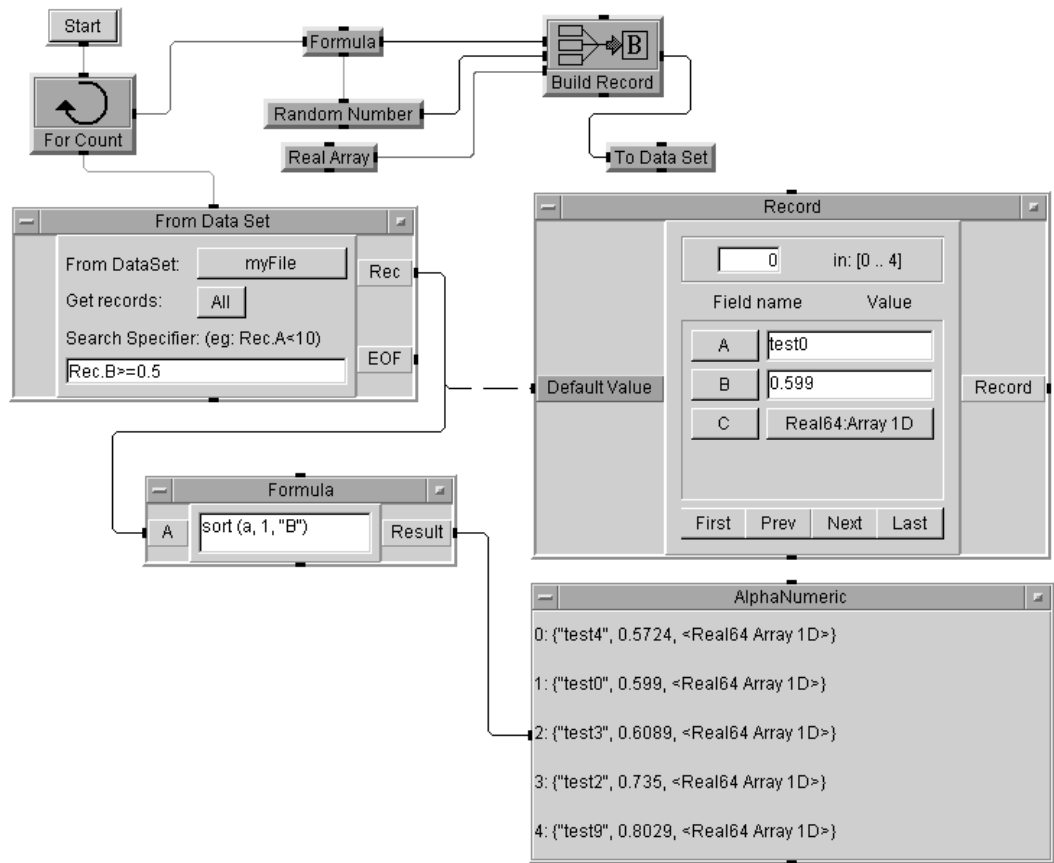

Figure 145 A Sort Operation on a Record Field
- 4 Run the program a few times. It should look similar to Figure 145. Notice that the program sorts all of the records returned from the DataSet file in ascending order by field B.